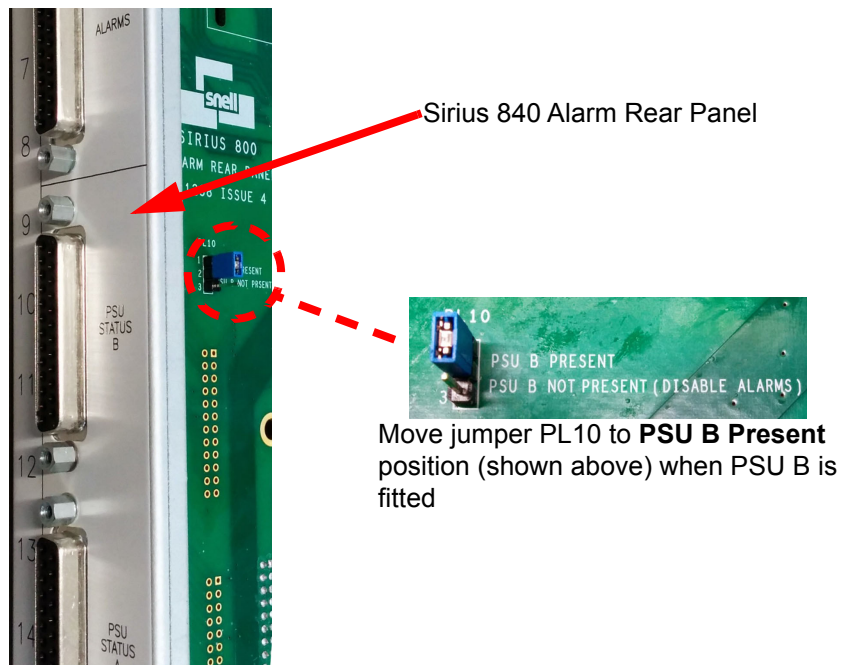

Figure 25 Sirius 840 PSU B Jumper Location
4. Locate jumper PL 10 and move it to the position shown in Figure 25: